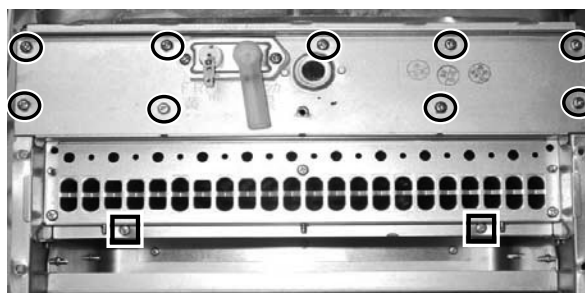

Figure 78
11. Remove the 9 screws attaching the burner cover plate to the combustion chamber. (Figure 78)
12. Remove the 2 screws attaching the burner to the heat exchanger. Pull out the burner. (Figure 78)
24. Insert the burner and place the burner cover plate into position. Attach the burner cover plate first with 9 screws and then attach the burner with 2 screws. (Figure 78)